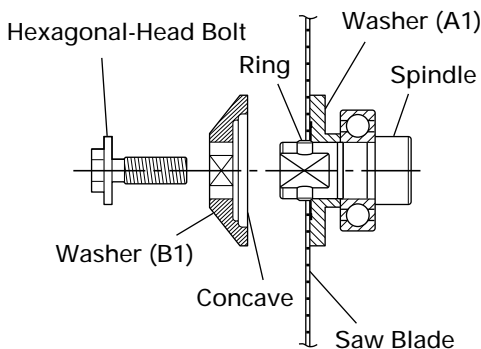

Fig. 20
2. Mounting the Saw Blade (Fig. 20)